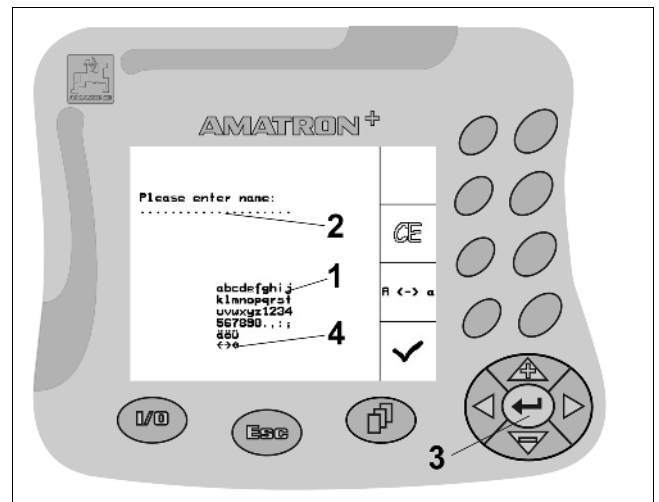

Fig. 13
If **AMATRON⁺** requires the entering of texts or figures the enter menu (Fig. 13) will appear.
A selection field (Fig. 13/1) with letters, figures and arrows with which the input line (Fig. 13/2) (text or figure) is created appears on the bottom part of the display.
- selection of letters or figures in the selection field (Fig. 13/3).
- Taking over the selection (Fig. 13/3).
The arrows in the selection field (Fig. 13/4) allow the movement in the text line.
The arrow in the selection field (Fig. 13/4) deletes the last entering.